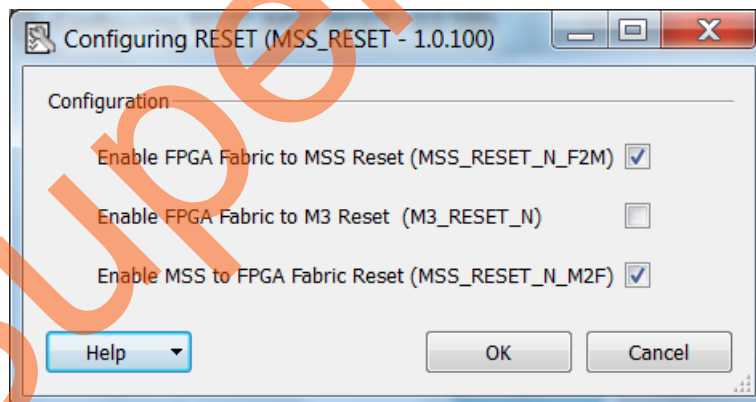

Figure 12. MSS RESET Configurator
- Double-click the **Reset Controller** and select the **Enable MSS to Fabric Reset** and **Enable Fabric to MSS Reset**, as shown in Figure 12. This enables the MSS to generate the Reset signal for all the Fabric blocks. The MSS reset itself comes through a system reset pin on the Fabric I/O. Click **OK**.